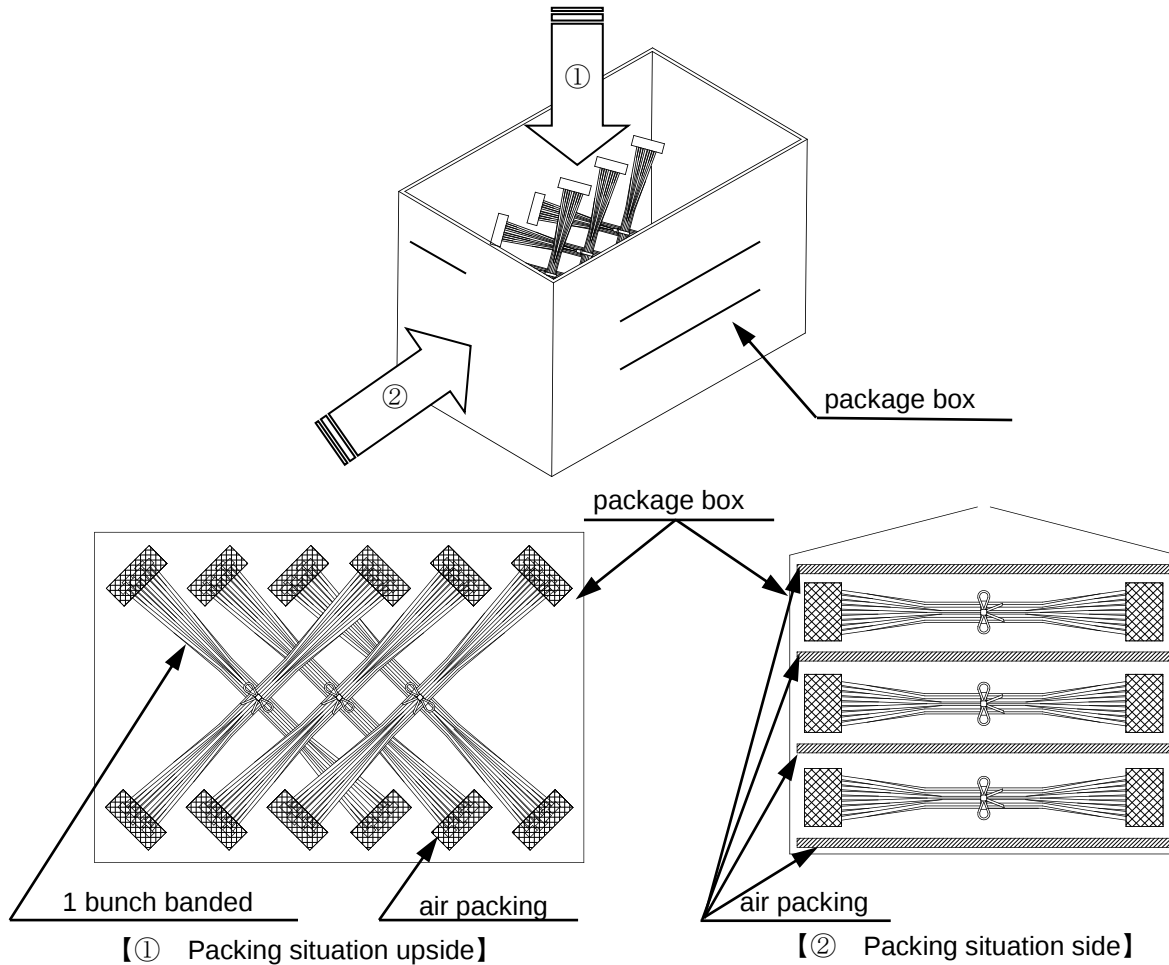

Fig.8-2 Packing situation
Below figure(**Fig 8-2**) is one of examples recommended reference. Please take measure not to add force to connector for long time by stacking if you pack with another packing method for long harness.
※When packing bundle of harness after processing in package box, please follow suggested packaging order and avoid applying excessive weight or force to harnesses. (cross shape) (**Fig.8-2 ①**)
※Please lay air packing etc. on package box underside. In order that force by piling package boxes etc. is not added to connector for long time, please lay air packing etc. (**Fig.8-2 ②**)